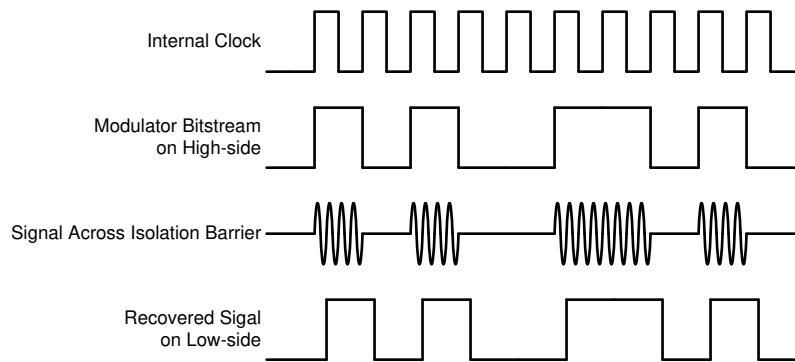

図 7-1. OOK-Based Modulation Scheme
The AMC1302 uses an on-off keying (OOK) modulation scheme, as shown in 図 7-1, to transmit the modulator output bitstream across the SiO₂-based isolation barrier. The transmit driver (TX) shown in the Functional Block Diagram transmits an internally-generated, high-frequency carrier across the isolation barrier to represent a digital *one* and does not send a signal to represent a digital *zero*. The nominal frequency of the carrier used inside the AMC1302 is 480 MHz.